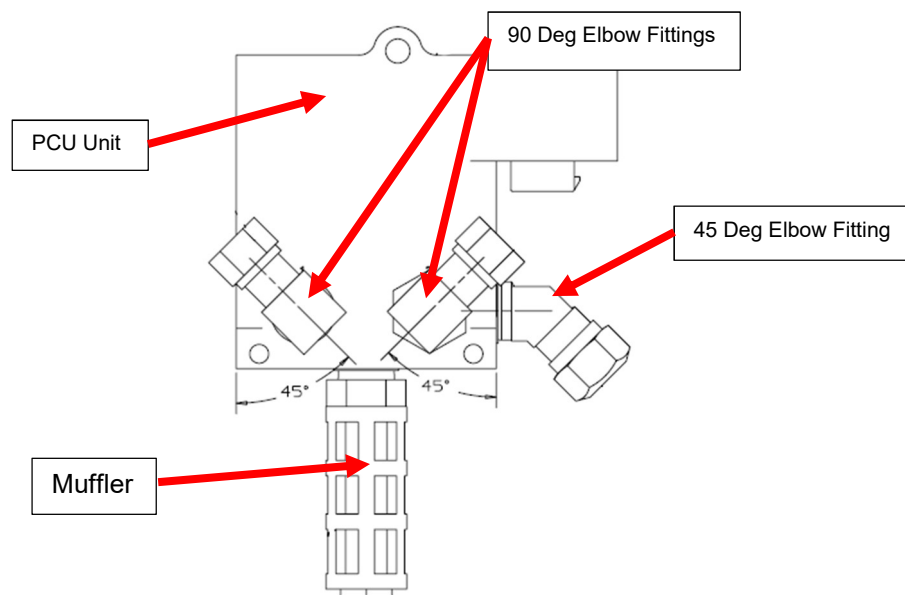

Figure 9: PCU Unit Assembly.
- a. Re-install the two 90 deg elbows in ports one and two using Loctite 567 thread sealant NF P/N 8110442 on the threads. Take care not to block the openings with thread sealant and leave the first two threads free of sealant. Install the fittings finger tight, then apply 1 – 1.5 turns past finger tight and align in the orientation seen in Figure 9.